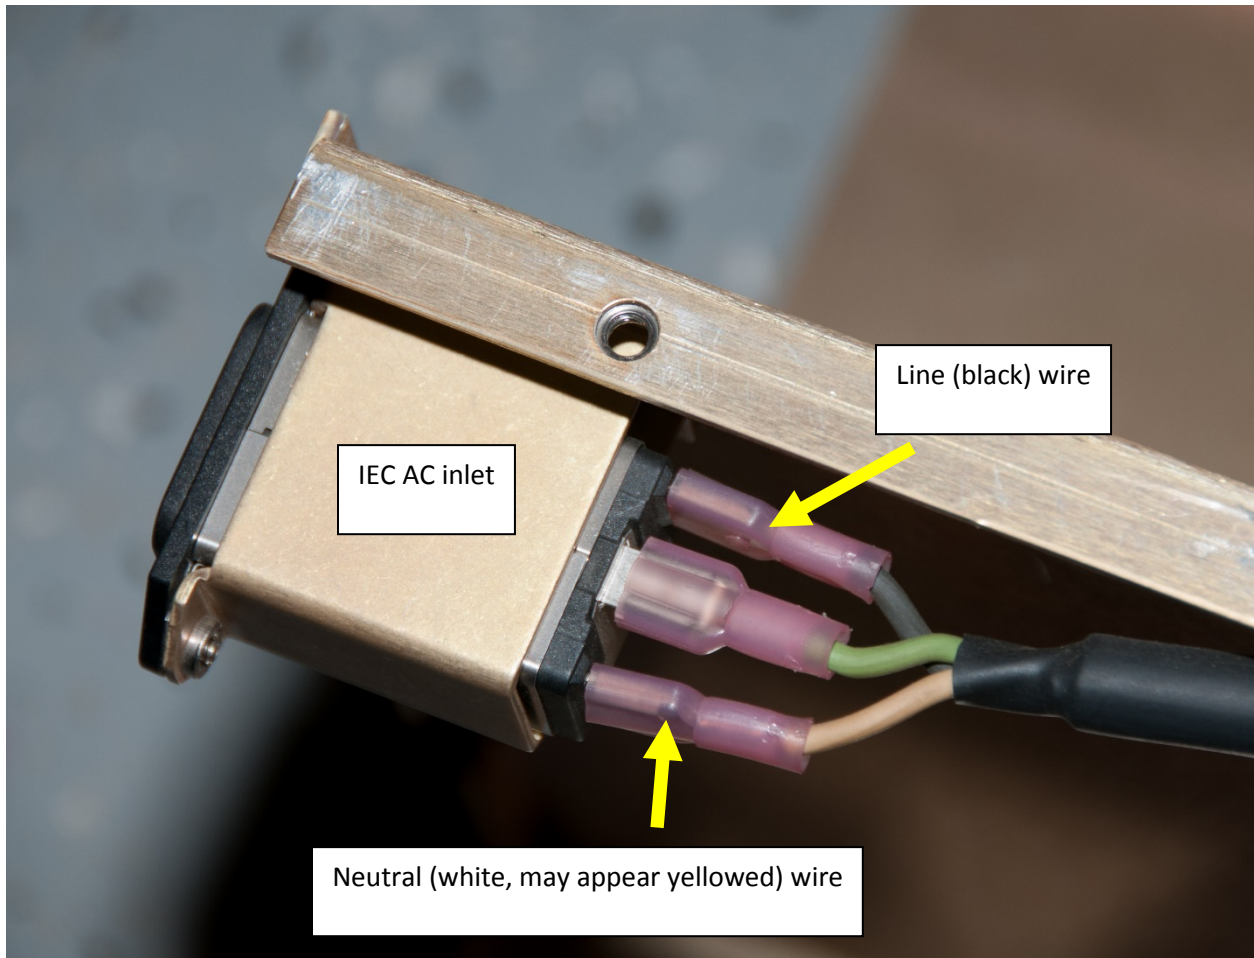

Fig. 3 – IEC AC Inlet at the rear of the MFA2PA **BEFORE** the wires are switched.
2. On the rear of the IEC AC inlet on the MFA2PA, switch the line (black) and neutral (white) quick disconnect spade connectors (Fig. 3).